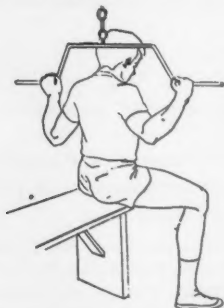

Fig. 7.
• **Pulldown Lat Machine** (neck, shoulders) (Fig. 7). Sit on the end of a bench or kneel on the floor. Grasp the bar of the lat machine in a pronated grip, with the hands more than shoulder-width apart. Pull the bar down behind your head until it touches the base of the neck and shoulders. Return to starting position and repeat.